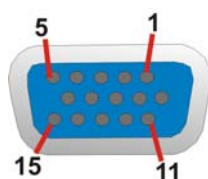

Figure 3-24: VGA Connector
- CN Pinouts:** See Figure 3-24 and Table 3-25